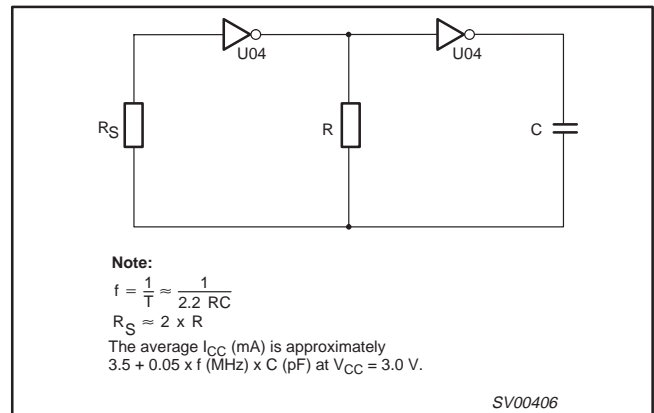

Figure 6. LVU04 used as an astable multivibrator.
- Astable multivibrator (see Figure 6)
Note to Figure 6